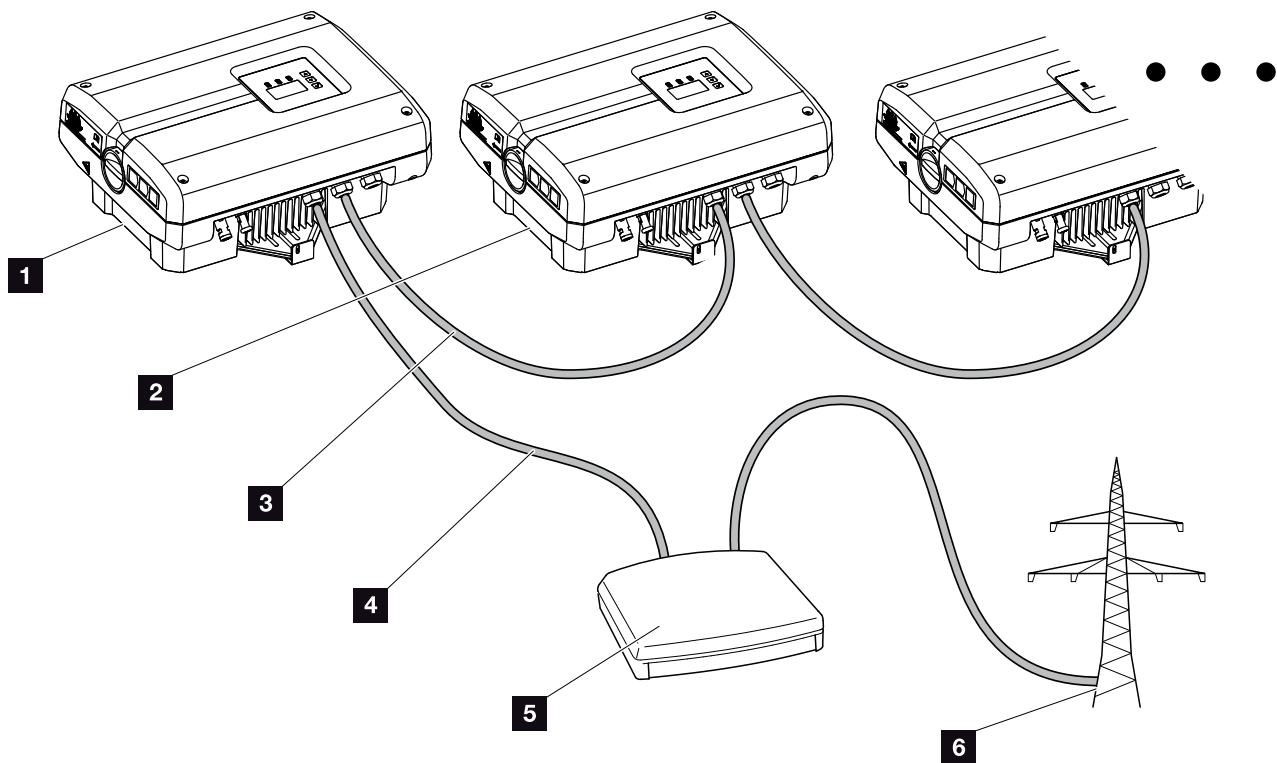
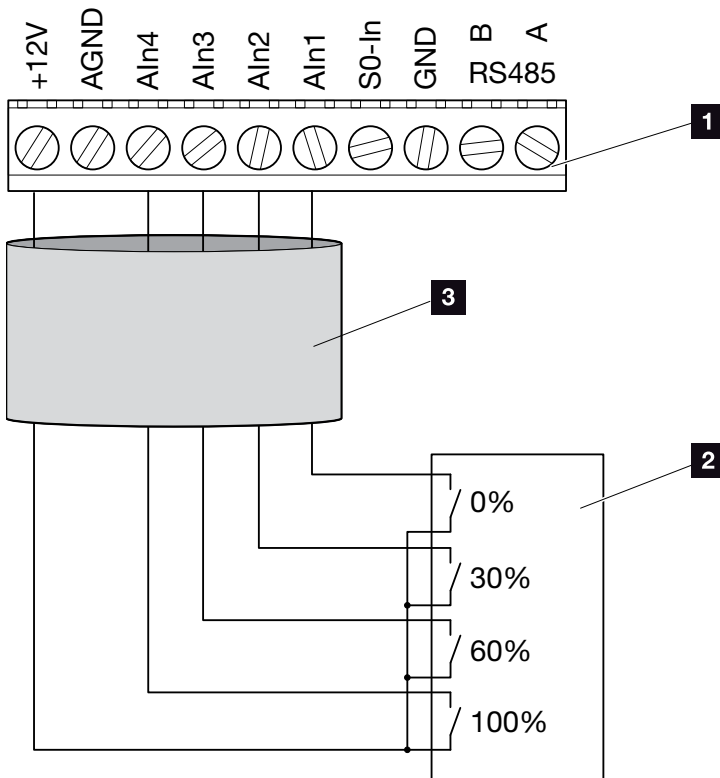

Fig. 54: Configuration of the ripple control receiver with several inverters (Ethernet networking)
Fig. 55: Connection of ripple control receiver
🔌 Fig. 54
3. Connect the ripple control receiver to the master inverter 🔌 Fig. 54 It. 1 on the analog interface terminal (10-pin). 🔌 Fig. 55 !
The ripple control receiver may only be connected at the master inverter. 🔌 Fig. 54